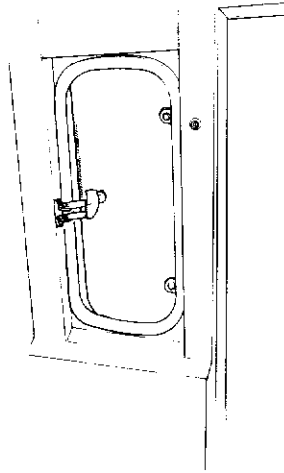

Figure 1-17 Rear Side Window
85. Rear side windows (Fig. 1-17)